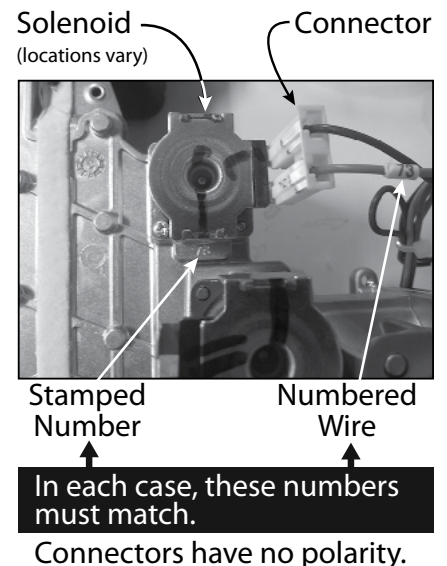

Figure 34.
- Reinstall the solenoid connectors to the gas valve before you reinstall the gas valve/manifold plate assembly. See Figure 34.
- Only four solenoid circuits have numbers labeled on their wires: 3, 9, 53, and 73. (See Figure 34. See also schematics on pages 30 or 31.)
To do so, match the printed number on the wire to the corresponding number that is stamped on the solenoid body. See Figure 34.